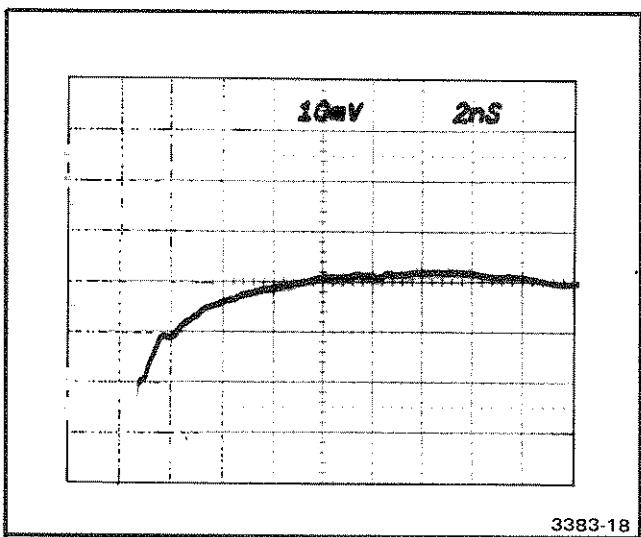

Fig. 4-8. Typical response curve as displayed on the sampling system.
g. Examine—the positive-going pulse aberrations are 1 division. Refer to Fig. 4-8.